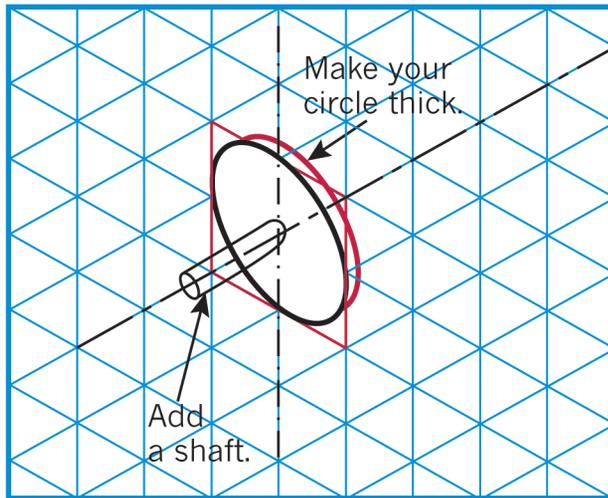

Figure 17
- **Step 7:** Now see if you can draw one for yourself. Copy the diagram in Figure 17 onto isometric grid paper.